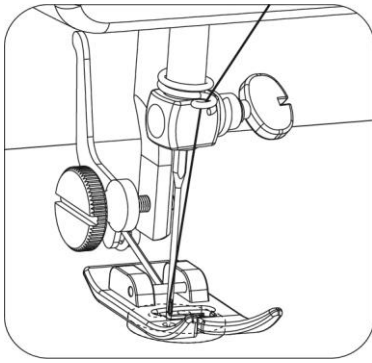

Fig.24
3. Guide the thread through the needle correctly before starting to sew a button. Turn on and use the foot pedal to sew the button slowly. (Fig. 24)